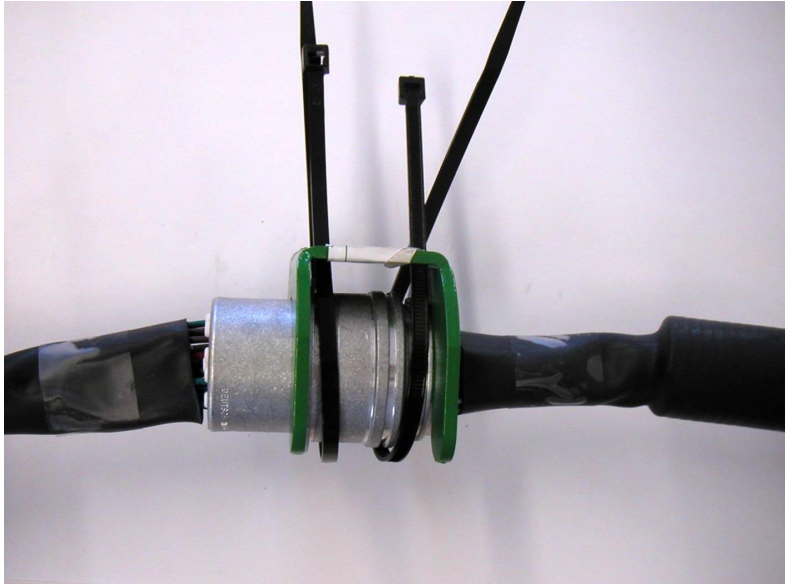

Figure 29
18. Connect female end of Electrical Cable (**LAN - 209735**) onto male end disconnected from single point connector block earlier. Slide bracket (**LAN - 206290**) over both of the cable ends and retain with two provided Zip Ties (***LAN - 44302**). (See **Figure 29**)